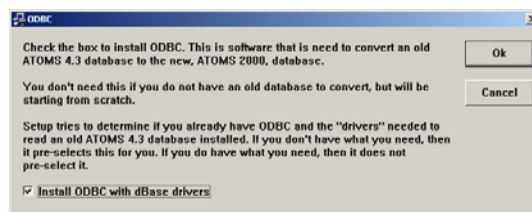

Figure 3-8. ODBC Installation
8) The ODBC window appears (Figure 3-8). The check box at the bottom of the window is checked if the installation program cannot find ODBC drivers already installed, or if the versions it does find are older than the ones that come with ATOMS 2000. If you know that the ODBC drivers are already installed, or that there will never be a need to convert ATOMS 4 data to ATOMS 2000 data, uncheck this box. Click **OK** (clicking
Something to consider before enlisting LAN aid, however, is that the ODBC installation is only necessary if there is a need to convert ATOMS 4 data to ATOMS 2000 data. If the user is starting a new database/TODO operation, or already has ATOMS 2000 data available, the ODBC installation is unnecessary. Simply un-check the box on the Install ODBC window (Figure 3-8) before clicking **OK**. ATOMS 2000 will run appropriately even without the ODBC installation, provided the **Convert Legacy data** utility is never accessed.